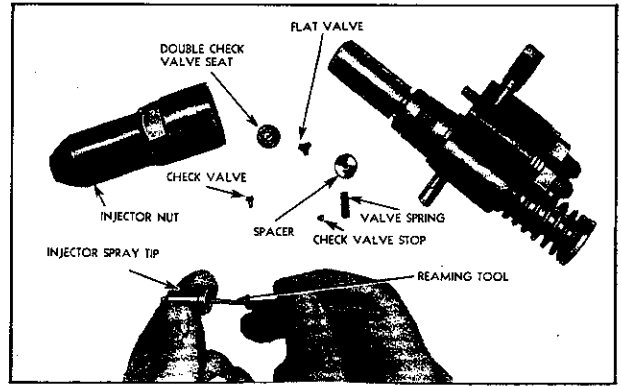

Fig. 11—Reaming Injector Spray Tip.
- (a) Holding injector spray tip in the fingers, as illustrated in Fig. 11, ream tip with Tool J-1243.